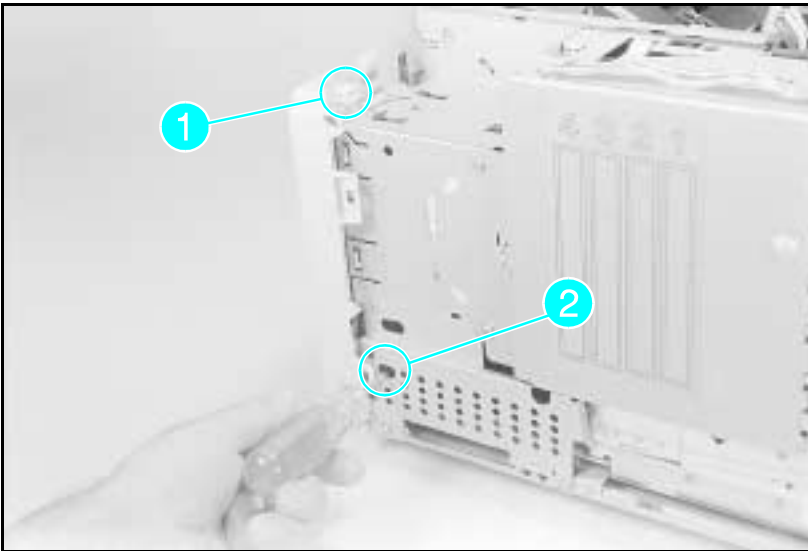
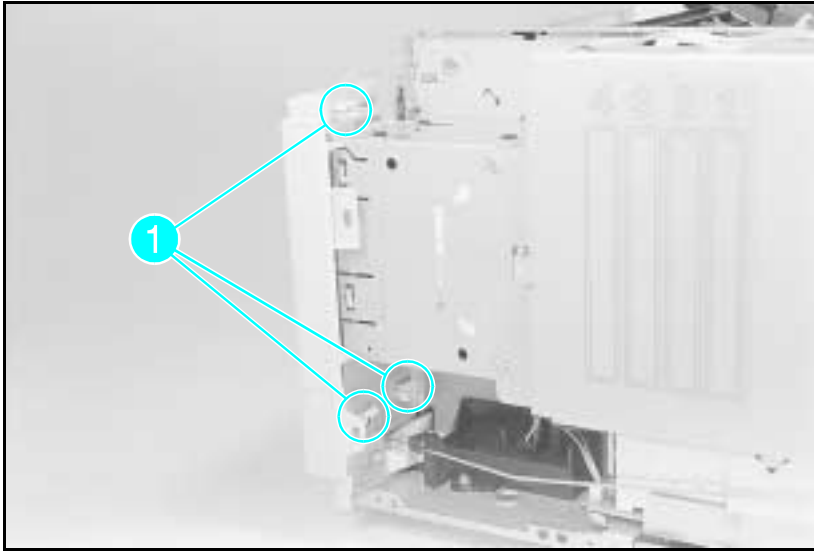

Figure 6-8 Font Door Removal (LaserJet 4 shown)
Figure 6-9 **Font Door Cover Latches**
- 2 Release the top latch (see Figure 6-8, callout 1).
- 3 Release the (2) lower latches through the access hole in the metal cover (see Figure 6-8, callout 2 and Figure 6-9, callout 1).
Figure 6-9 shows the metal side cover removed in order to show the Font Door latches. It is not necessary to remove the metal side cover to remove the Font Door.
- 3 Release the top latch. (See Figure 6-8, callout 1)
- 5 Release the (2) lower latches, one through the access hole in the metal cover (see Figure 6-8, callout 2), and one from the bottom of the printer (next to the Tray 2 guide).